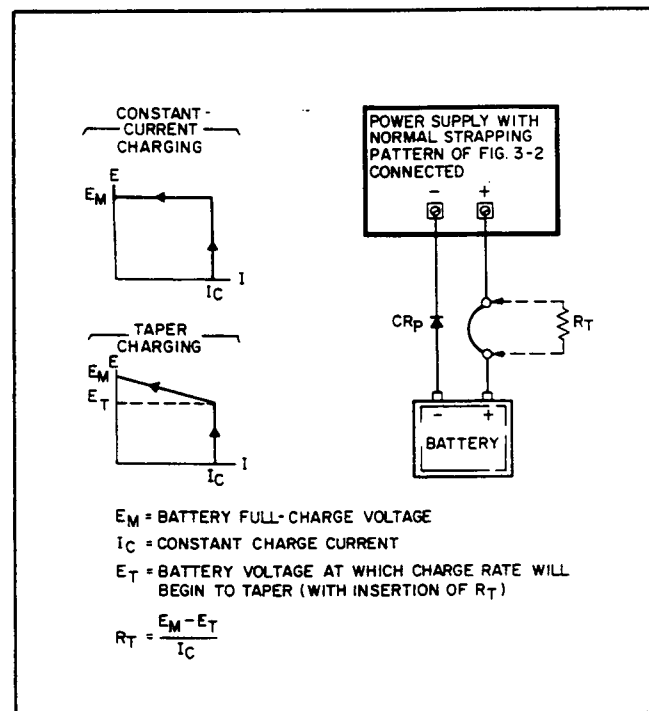

Figure 3-16. Battery Charging
Any time these supplies are used to charge a battery, be sure to install a protective diode CR_P in series with the battery as shown in Figure 3-16 to prevent the battery from discharging into the supply if the supply is turned off. Extensive damage to the supply could result if this diode were omitted.
- Connect a short circuit across the output terminals and rotate the **VOLTAGE** control fully clockwise (CW).
- Adjust the **VOLTAGE** control for an output voltage 0.7 volts greater than the desired full charge voltage. (The added 0.7 volts compensates for the drop across CR_P .) The supply may then be connected to the battery terminals, positive to positive and negative to negative as shown in Figure 3-16 (omit R_T).
3-90 Taper Charge. When charging lead-acid cells, many manufacturers recommend that the charging current be reduced as the charge nears completion. This can be accomplished by inserting a small resistance (R_T) in series with one of the load leads from the supply to the battery. (See Figure 3-16.) This resistor alters the normally rectangular charging plot in such a manner as to provide a taper charge for the last portion of the charge. The proper value for this resistor is the difference between the full charge voltage and the voltage at which the tapering is to start, divided by the initial charging current. Set the initial charging rate and full charge voltage as instructed in paragraph 3-89.